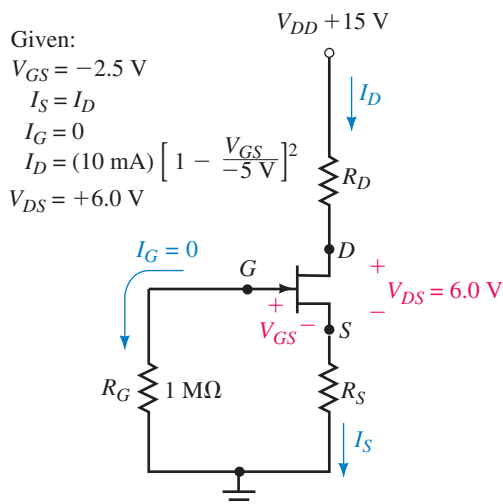

FIGURE 7-66
24. Consider the circuit of Figure 7-66 and the indicated values: